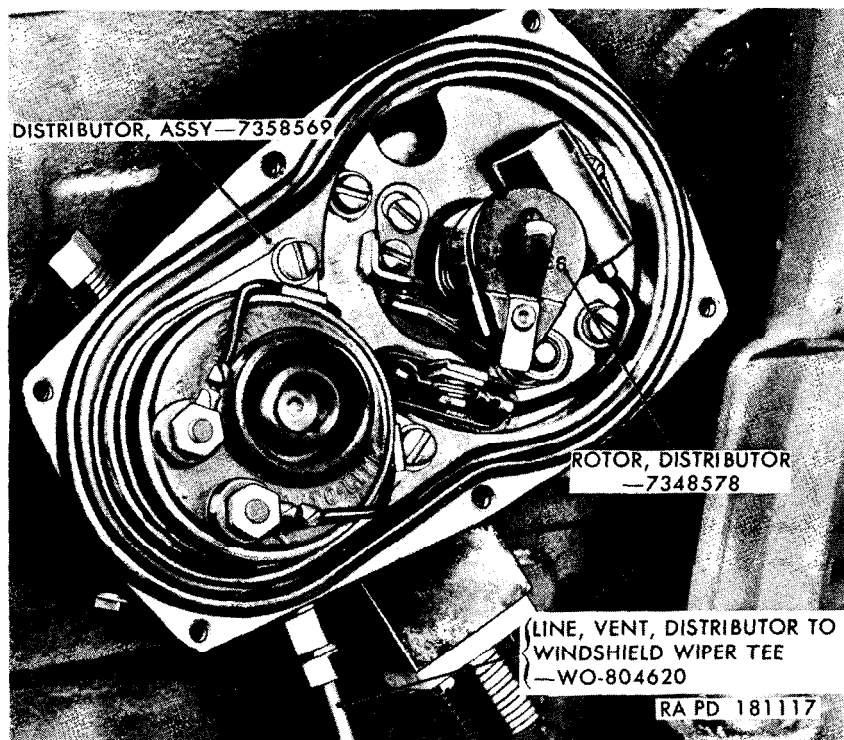

Figure 106. Number one firing position of distributor rotor.
- (3) When the distributor has been secured in place, the distributor rotor should be in the position as shown in figure 106 (No. 1 cylinder firing position).